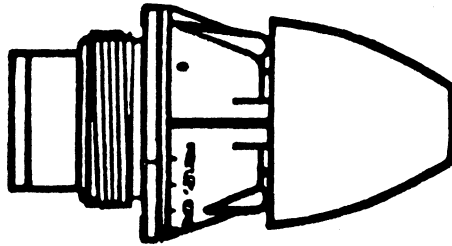

Fig 3-16. M734 multioption fuze.
- (1) The M734 multioption fuze (fig 3-16), has four function settings. PRX (proximity) causes the cartridge to explode between 3 and 13 feet above the ground. NSB (near surface burst) causes the cartridge to explode between 0 and 3 feet above the ground. IM (impact) causes the cartridge to explode on contact. DL (delay) incorporates a 0.05 second delay in the fuze train before exploding the cartridge. No tools are needed to set the fuze, and the setting can be changed several times without damaging the fuze. It has no safety pins or wires to reduce preparation time. If the fuze does not function as set, it will automatically function at the next lower setting. This fuze is found only on the M821 HE round.